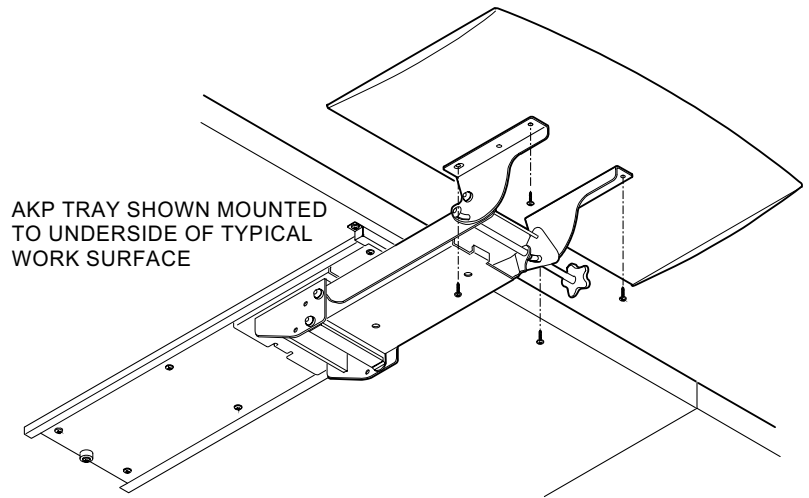

FIG. 2 REMOVE EXISTING AKP TRAY
Parts List (Fig. 2)
1. Remove four (4) 1/2" long cross-recess screws from underside of existing AKP arm (Fig. 2).